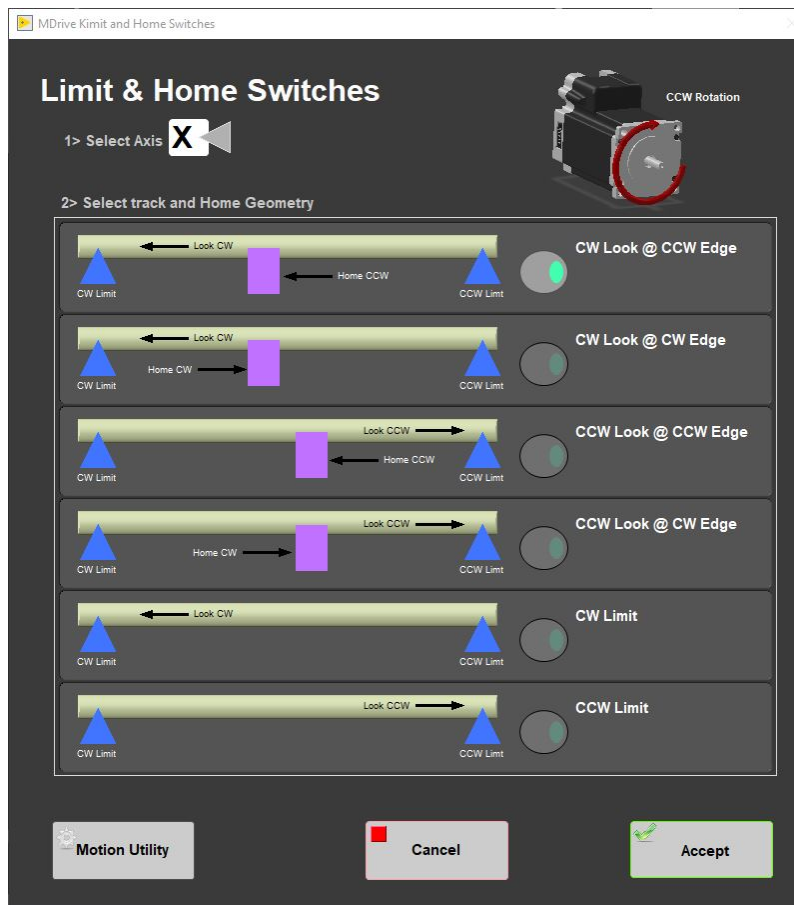

Figure 58- XMSL Limit and Home Switches Window
- This panel is used to define the orientation of the track system, limit switches, and the home switch (**Figure 58**). The MDrive can be used with either a dedicated Home switch or a limit switch as a home switch. In the case of the XMSL track we use a home switch.